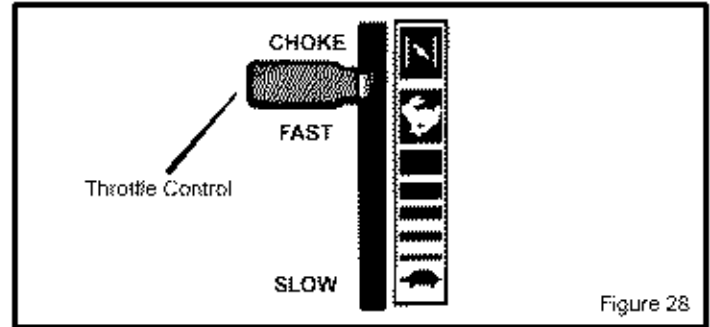

Figure 28
1. Move the **throttle control** to the **FAST** position (Figure 28).